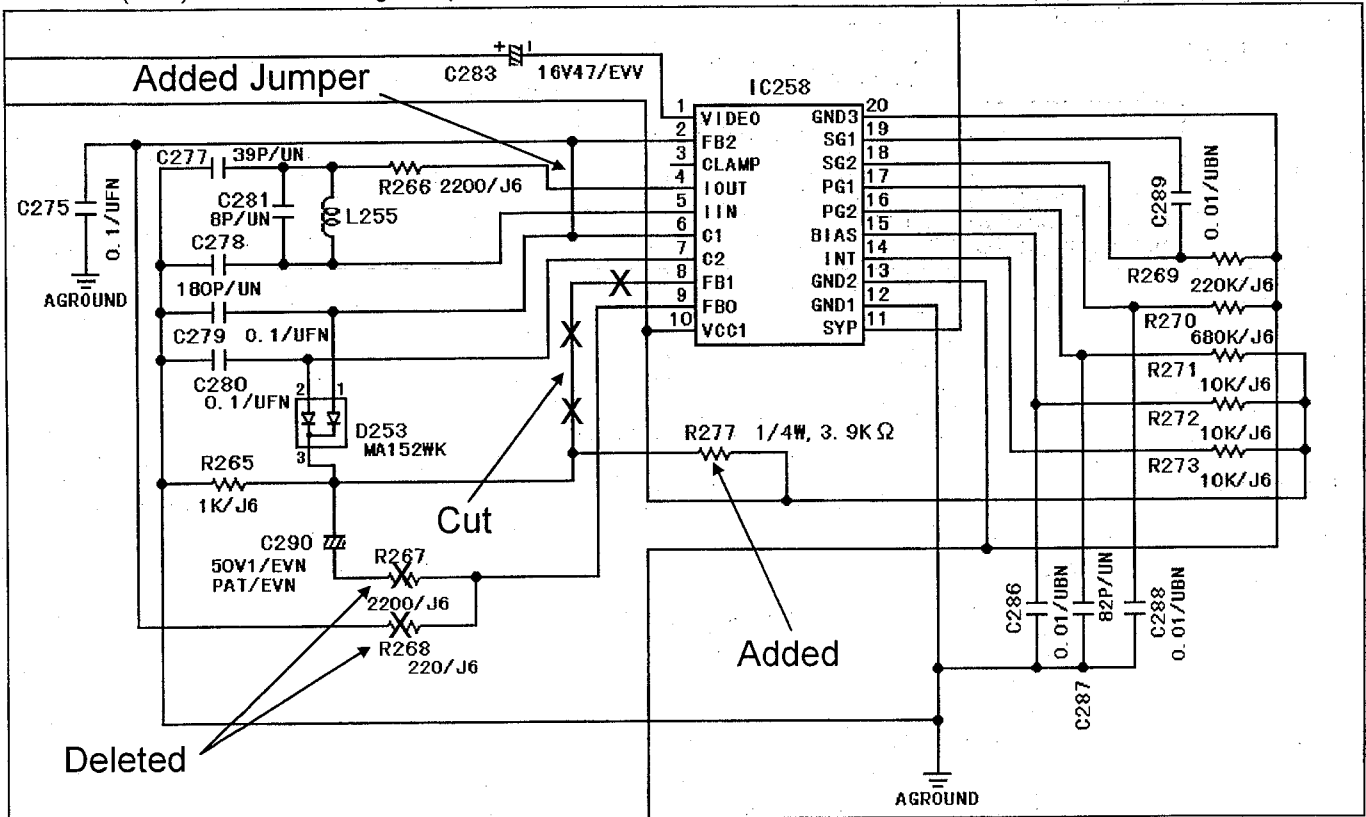

Fig. 3 Page 2-89
- 4). Add a resistor R277 (1/4W, 3.9K Ω) between pin #10 of IC258 and cathode of D253 on the foil side as shown in figures 3 and 5.
- 7). Connect a jumper wire between pins #2 and #6 of IC258 on the foil side as shown in figures 3 and 5.
- 1). Delete resistors R267, R532 and R533 (1/10W, 2.2K Ω) and R268 (1/10W, 220 Ω) from the foil side as shown in figures 3, 4, 5, and 6.
- 2). Float the leg of pin # 8 of IC258 and IC503 on the foil side as shown in figures 3, 4, 5, and 6.
- 3). Add a resistor R277 (1/4W, 3.9K Ω) between pin #10 of IC258 and cathode of D253 on the foil side as shown in figures 3 and 5.
- 6). Connect a jumper wire between pins #2 and #6 of IC258 on the foil side as shown in figures 3 and 5.
- 1). Float the legs of pin #8 of IC258 and IC503 and then cut them on the foil side as shown in figures 3, 4, and 7.
- 2). Add a resistor R277 (1/4W, 3.9K Ω) between pin #10 of IC258 and cathode of D253 on the foil side as shown in figures 3 and 8.
- 3). Connect a jumper wire between pins #2 and #6 of IC258 on the foil side as shown in figures 3 and 8.